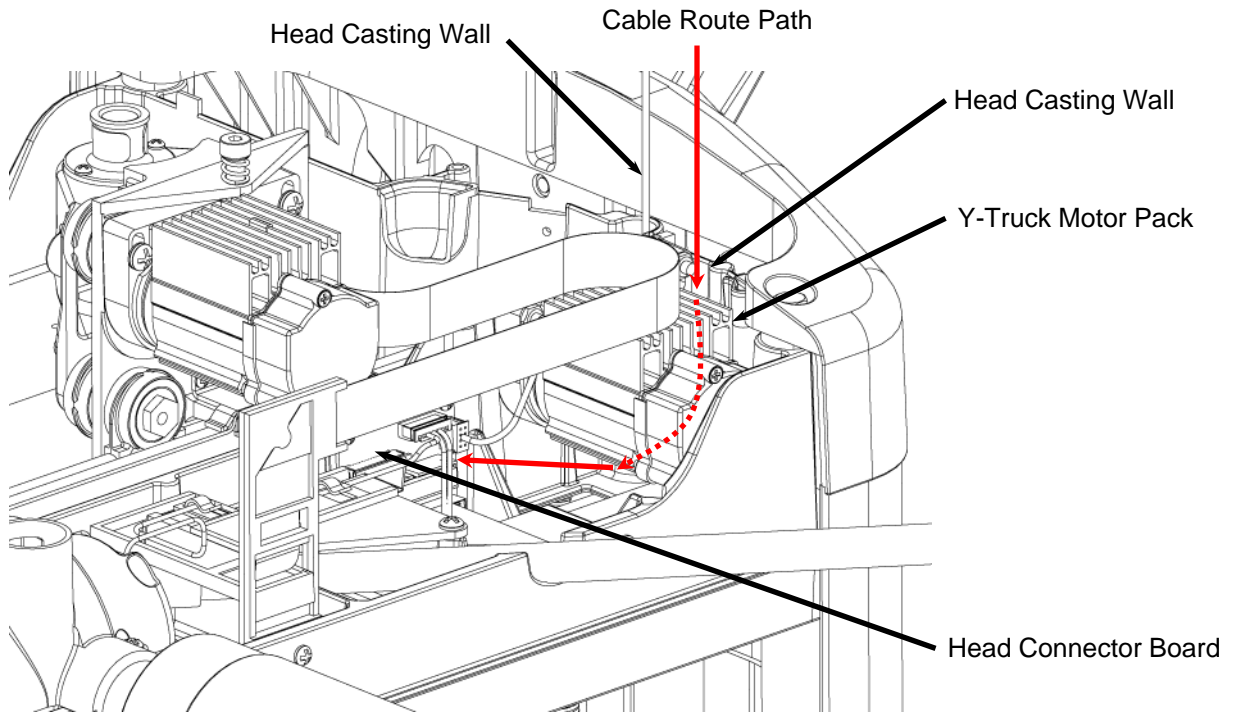

FIGURE 18: ROUTING THE HEAD CABLE HARNESS
- c. Route the Head Cable Harness down between the wall of the head casting and the side of the Y-motor pack, under the Y-motor pack and plug it into the connector board as shown in Figure 18. Make sure that the connector is oriented correctly using the keying ribs and slots before plugging it in. Note that the white wire will be oriented toward the non-keypad side of the machine.